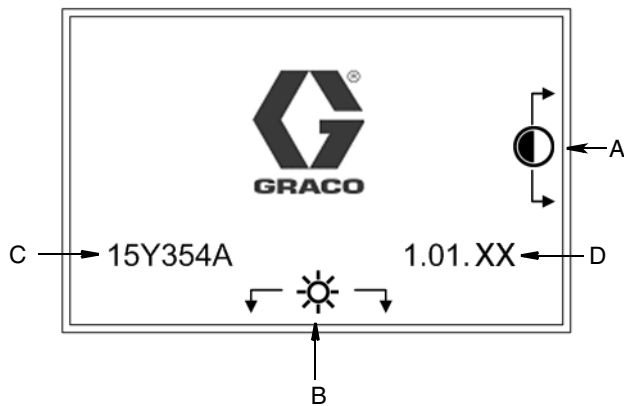

FIG. 20
NOTE: The example of the Software Version (D) shown in FIG. 20 displays "XX" as the last two numerals. On your Controller's screen, the "XX" will be replaced by the current software version numbers.